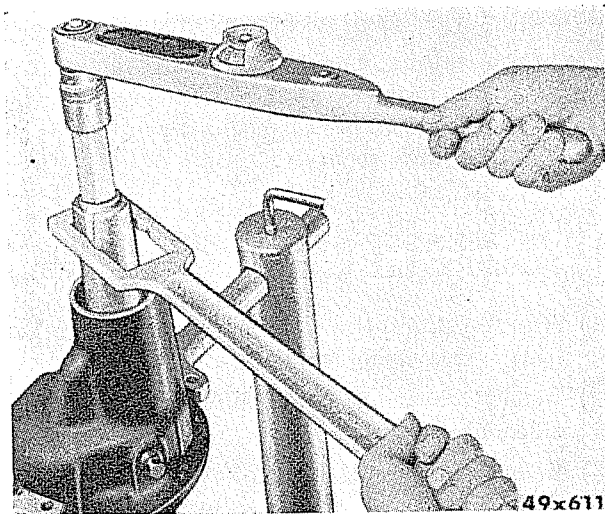

Fig. 10—Tightening Compression Nut with Foot—Pound Torque Wrench.
- (c) Place compressing sleeve, centralizing washer and compression nut over main body and tighten to 180 to 320 foot pounds, as shown in Figure 10.